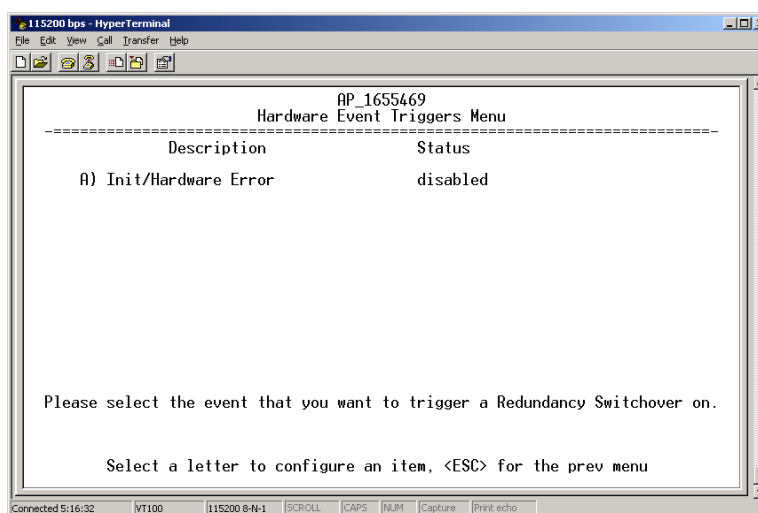

Figure 3-75. Hardware Event Triggers
- **Hardware Event Triggers**—This selection opens a submenu (Figure 3-75 on Page 107) where you can set/view the trigger status for initialization/hardware errors.